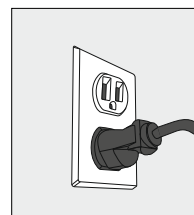

Figure 4
3. Ensure that the available power supply matches the cooler's voltage specifications indicated on the nameplate label (located at the rear). Plug power supply cord into receptacle (Figure 4). Please ensure that cooler is set up so as access to the power outlet and plug is unobstructed. (Use of an extension cord will void the warranty)